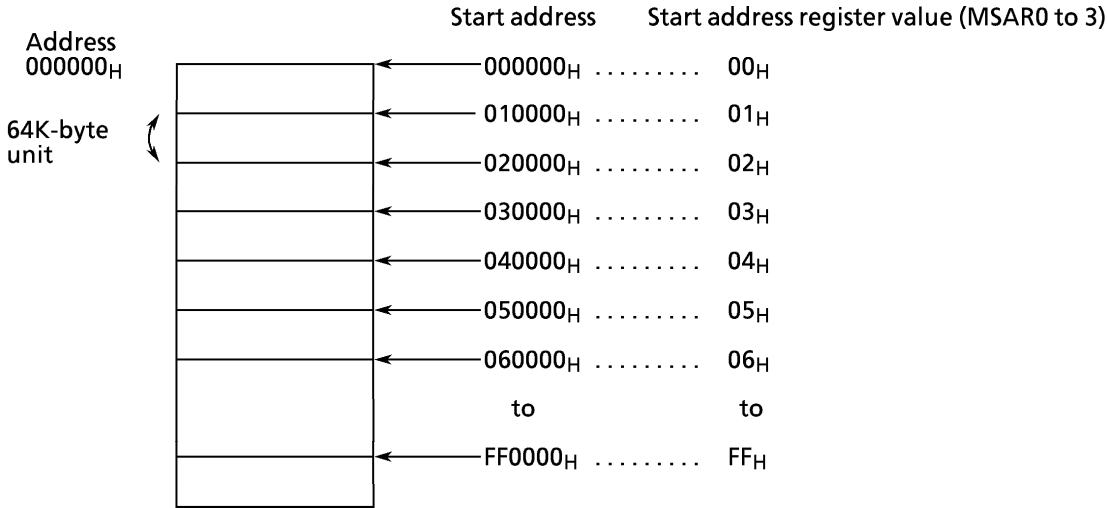

Figure 3.6 (8) Where to Set Start Address
As shown in the address decoder block diagram (Figures 3.6 (3) to (5)), $\overline{CS0}$, $\overline{CS1}$, or $\overline{CS2/CS3}$ can specify the address area for which the chip select signal can be output depending on whether to compare the addresses A8 to A20, A8 to A21, or A15 to A22 respectively.